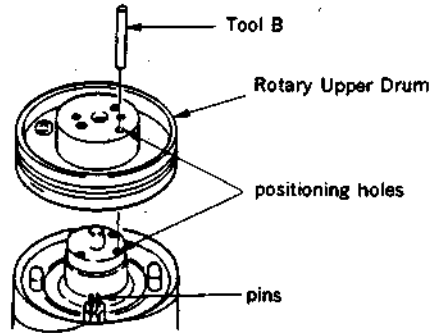

Fig. 3
- (1) Clean the flange surface of the Lower Drum and the contact point of the new Rotary Upper Drum with a cleaning piece. Check that no dust or flaw are left.
- (2) While adjusting the positional relationship of the Rotary Upper Drum and positioning hole with the tool B, insert the Rotary Upper Drum lightly. At this time, Check that the terminals project out from the PC Board of the Rotary Upper Drum. When the terminals are caught, correct them with a pair of tweezers, etc.. Remove the tool B and lightly push the Rotary Upper Drum by hand. If the Rotary Upper Drum does not down to the bottom, thread the two fixing screws to the Rotary Upper Drum alternately, but do not tighten them. Insert the tool B in the positioning hole and check that the tool B can be inserted smoothly again. If the tool B can not be inserted, loosen the two screws (M 2 X 5) and adjust the position of the Rotary Upper Drum by precision screwdriver. (fig. 3 and 4)
- (3) Tighten the two screws (M2 X 5).
- (4) Assemble the parts with Removal Steps (1) to (4) in reverse order.